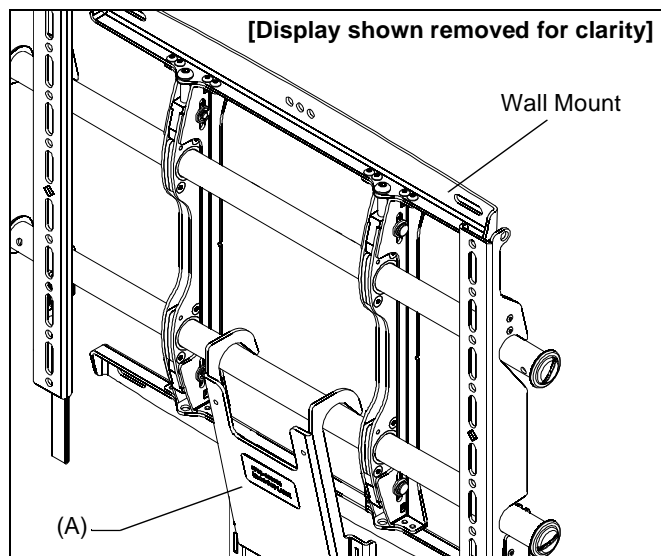

Figure 2
2. From below and behind the display, raise and hang hook bracket (A) onto lower wall mount rail. (See Figure 2)